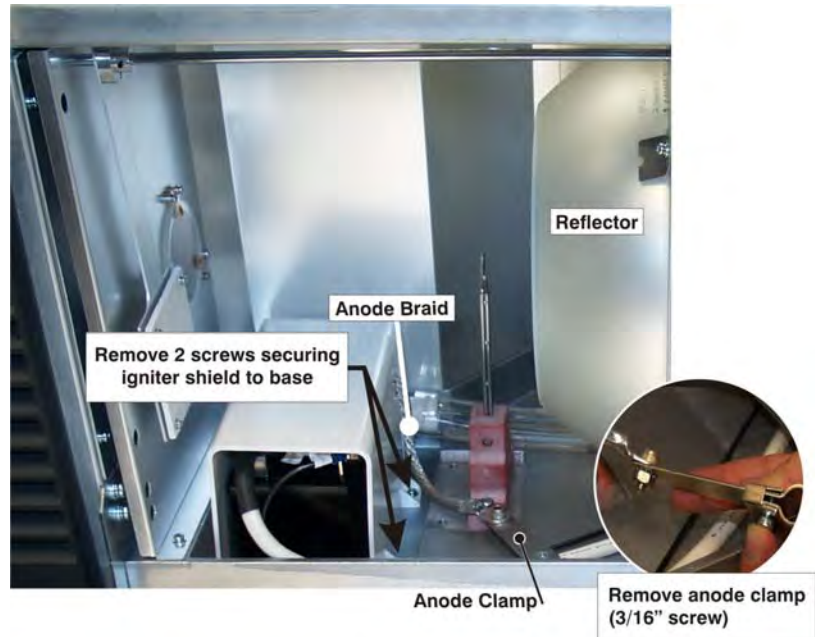

Figure 5-42 Lamp Compartment
3. Remove the screw securing the anode clamp to the anode braid. Once the anode braid is loose, push it through the opening in the igniter cover (**Figure 5-42**).